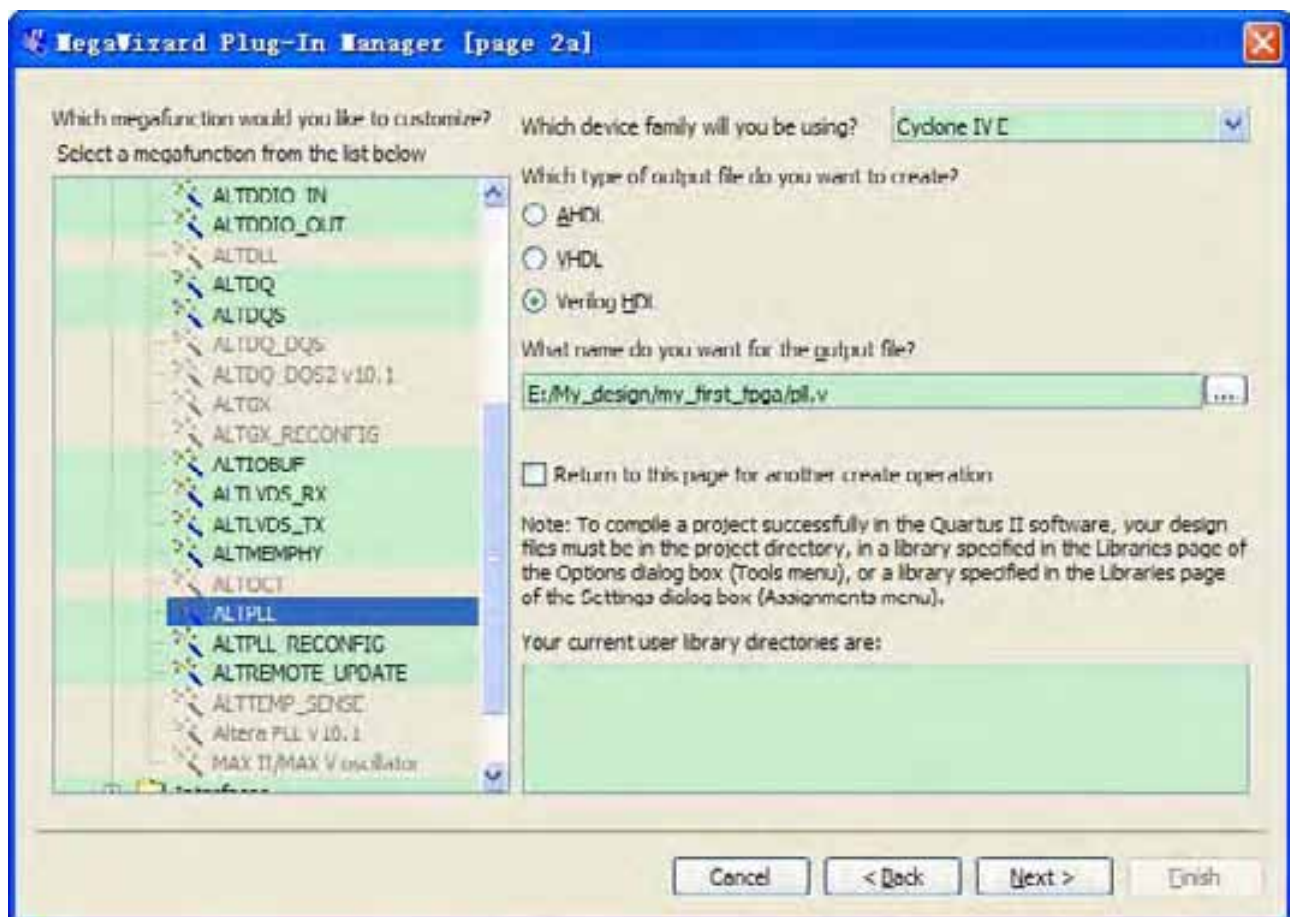

Figure 6-20 MegaWizard Plug-In Manager [page 2a] Selections
4. In MegaWizard Plug-In Manager [page 2a], specify the following selections (see **Figure 6-20**):